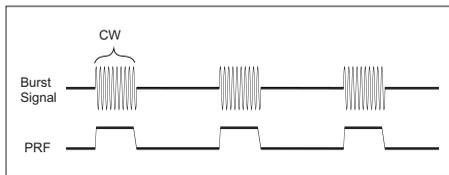

Fig. 6-6 Burst signal.
A burst signal as in Figure 6-6 is an AM modulated signal with 100 % modulation depth. The signal has a carrier wave (CW) frequency and a